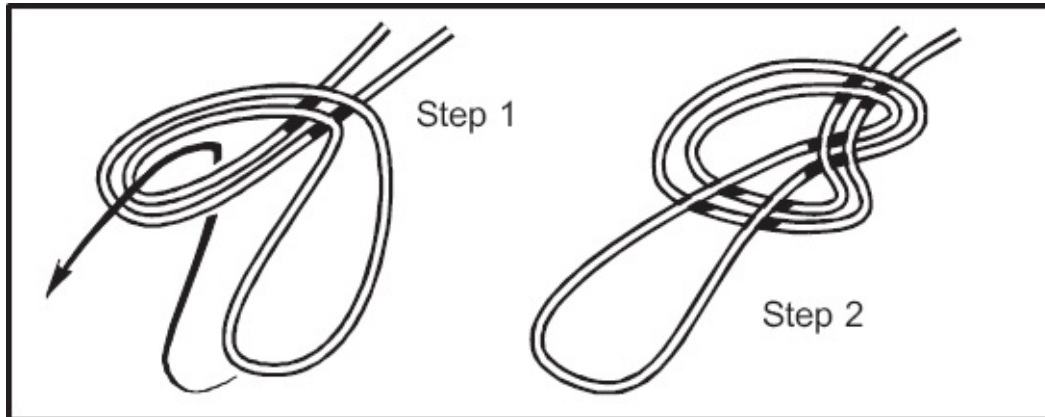

Figure 4-3. Fixed loop
(1) Create a “***fixed loop***” big enough to place under armpits (**Figure 4-3**).
(2) Follow the procedures in “**d**” above.